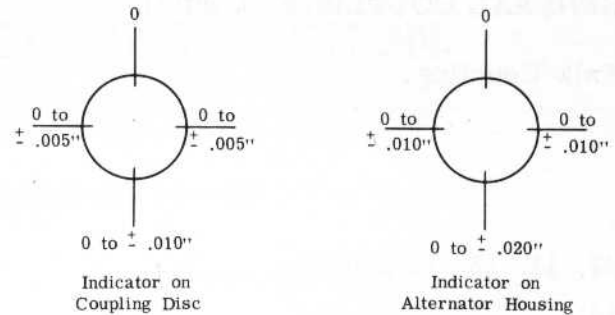

Fig. 26 - Dial Indicator Alignment Tolerances Model D15 And D15B Generators
- e. The generator alignment is considered satisfactory when the indicator readings are to or within the indicator tolerances given in Fig. 26. To accomplish this condition will likely require slight relocation and/or shim adjustment under the generator support. Full length shims should be used if possible, however, spot shims may be used to conform to the limits given. Since any movement of the generator frame affects both air gap and the coupling, readings must be taken following any cor-